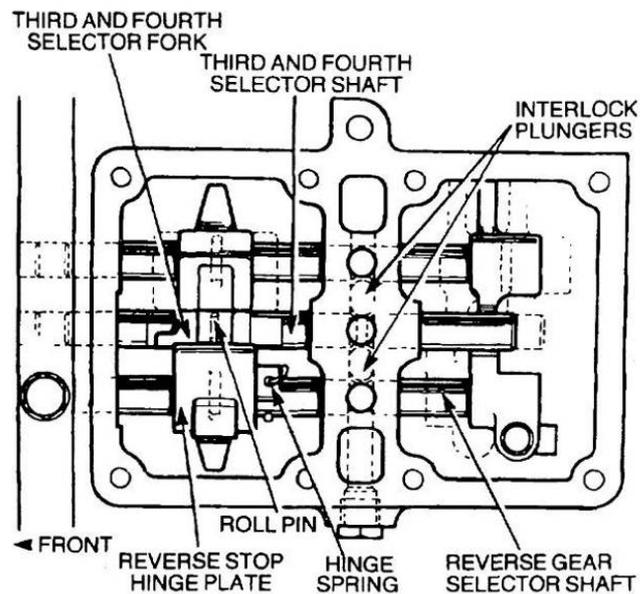

Figure 199 Installation of the Third and Fourth Gear Selector Fork
- ccc. Locate the third and fourth gear selector fork in the outer member groove and position the fork with the roll pin entry hole at the top right-hand side. Insert the third and fourth gear selector shaft and interlock plunger assembly. Secure the shaft to the selector fork with a new roll pin (Figure 199).
- ddd. Insert an interlock plunger on either side of the third and fourth selector shaft. Position the reverse stop hinge plate and selector in the transmission case adjacent to the third and fourth gear selector (Figure 199).
- eee. Install the reverse gear selector shaft and engage the reverse stop hinge assembly and hinge spring (Figure 199). Push the shaft in fully and engage the reverse selector finger. Do not tighten the pinch bolt at this stage. Secure the reverse stop hinge assembly to the shaft with a new roll pin.